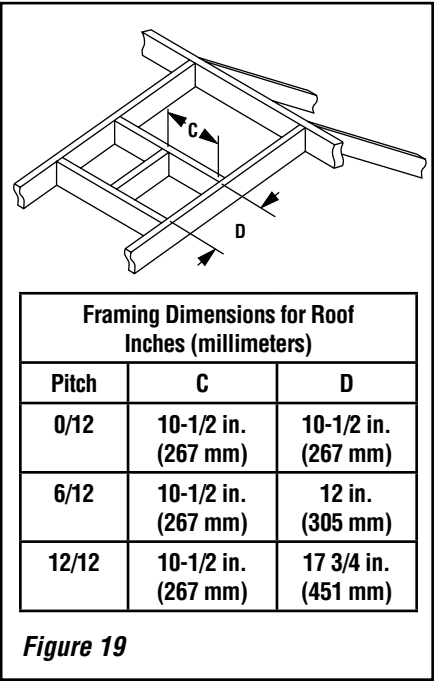

Figure 19
H. Frame roof opening - Identify location for vent at the roof. Cut and/or frame opening per Roof Framing Chart and **Figure 19**.